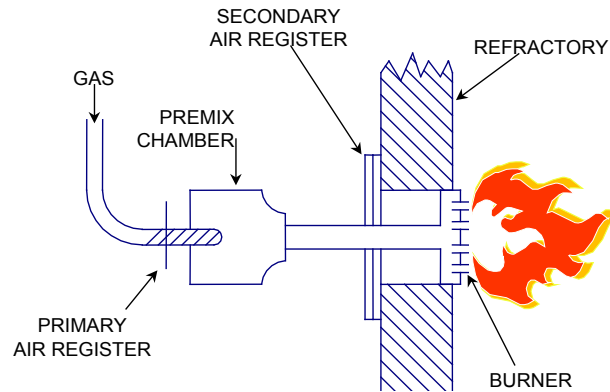
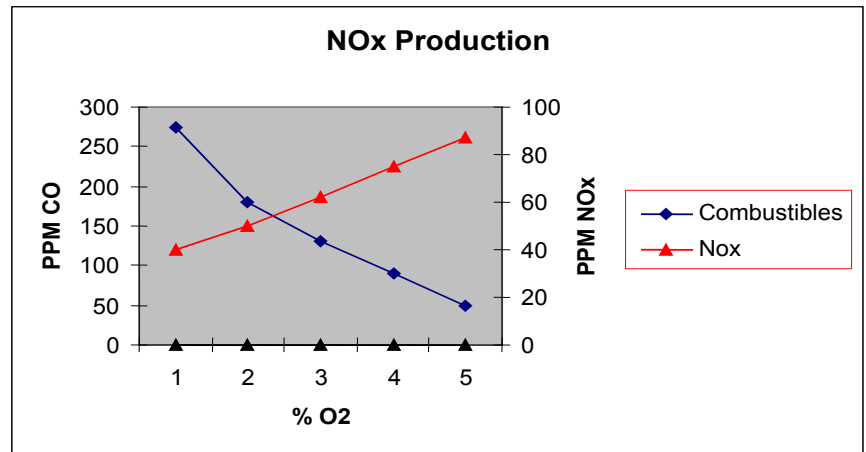

Figure 8. Burner with too much combustion air.
Figure 9. An example showing how NOx production increase with increasing excess air.
Too much combustion air reduces flame temperature and drops efficiency (Figure 8). In most applications this is the biggest source of heater inefficiency and NOx production. The high temperature in the flame and radiant section, together with combustion turbulence at the burners, causes dissociation of air molecules. The nitrogen and oxygen atoms combine to form nitric oxide (NO) and nitrogen dioxide (NO2), together known as NOx. The more combustion air, the more oxygen is available to produce NOx. Conversely the less oxygen the less chance of NOx formation (Figure 9).